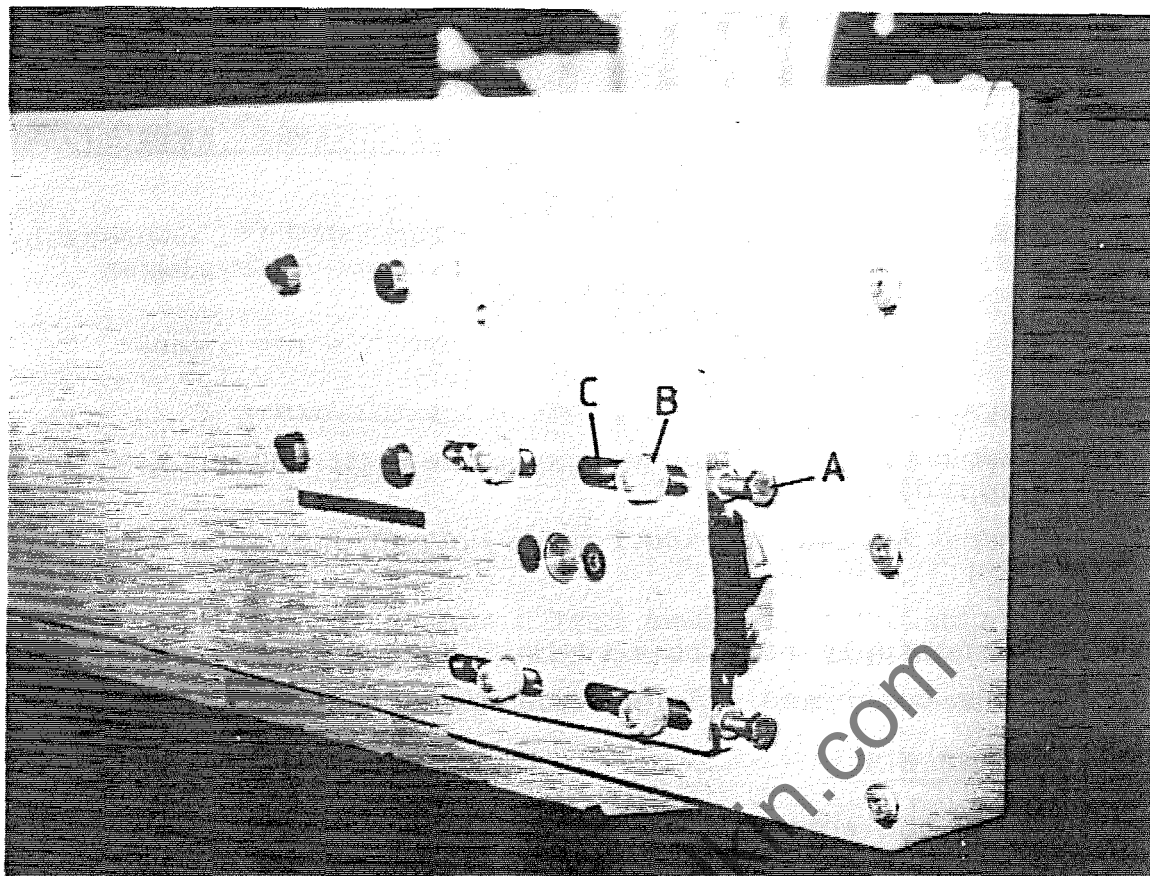

FIG. 48
- 1 Release set screw "A" FIG.48 and unfasten four hexagon nuts "B" and slide universal joint carrier about the elongated slots "C".